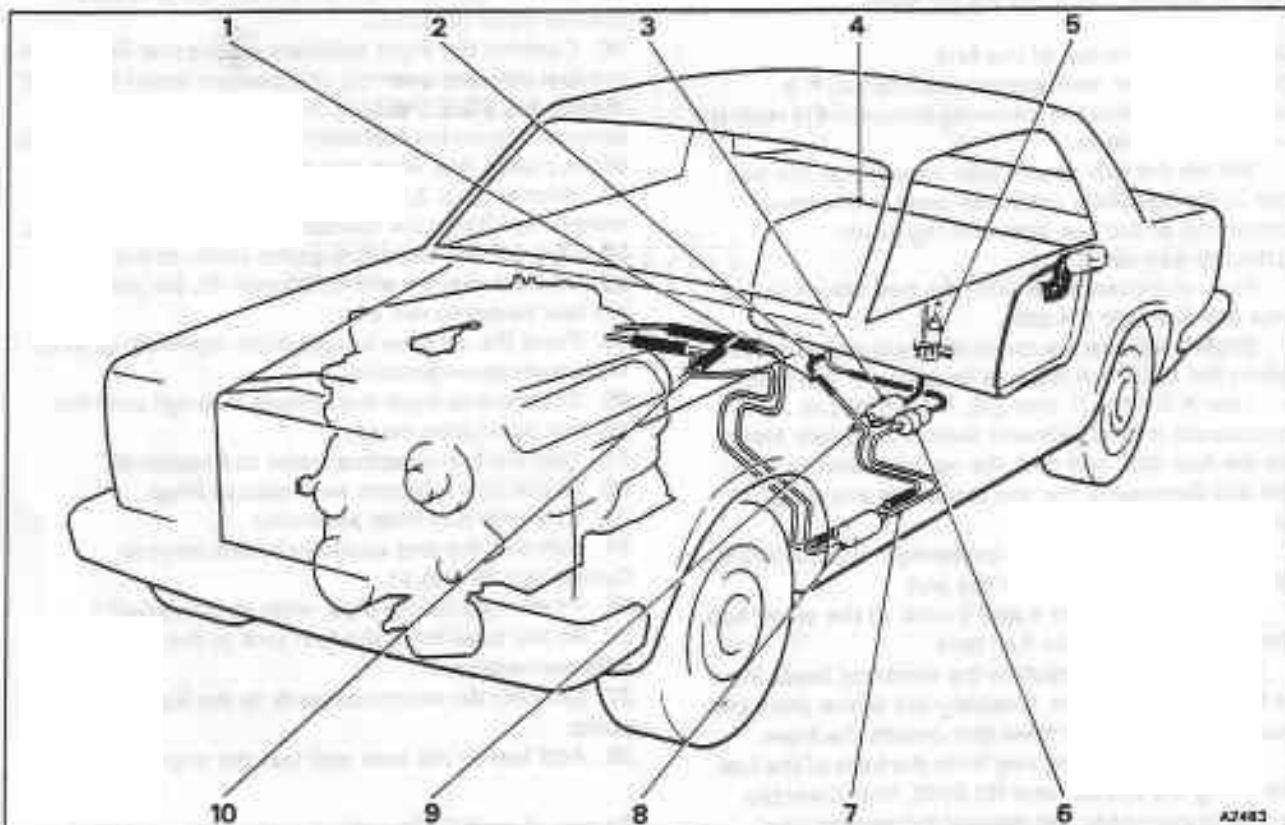

Fig. C2-1 Fuel system layout
The fuel system is of the recirculating type as shown in figure C2-1. Excess fuel not required by the engine is returned to the fuel tank.
**Fuel tank** (see figs. C2-1 and C2-6)